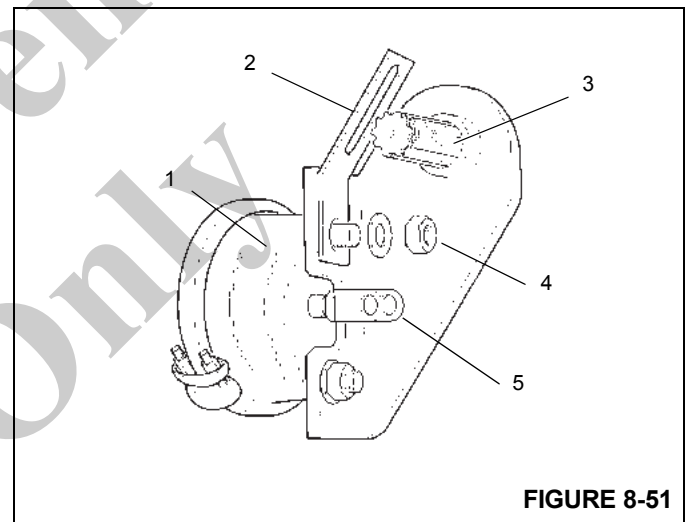

FIGURE 8-51
**NOTE:** See Figure 8-51 for steps 1 through 5.
**NOTE:** See Figure 8-51 for steps 1 through 3.